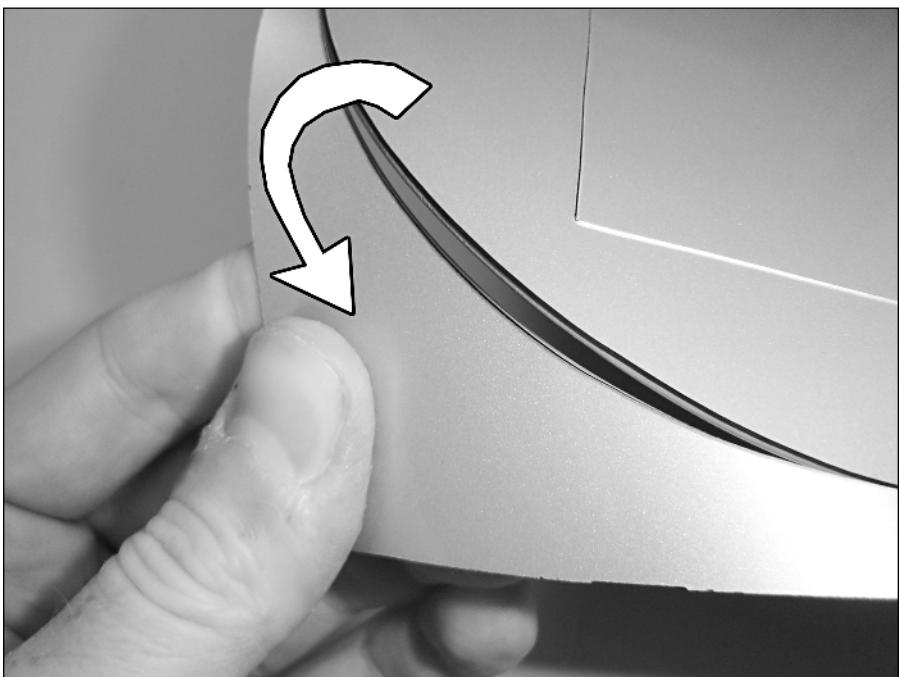

FIGURE 13-3: Bending the plastic around the edges of the front screen plate circle.
6. You can now bend the main circle shape free of the plastic. Bend the edges of the circles backward, away from the color side of the plastic as shown in Figure 13-3. Once you've bent a certain ways, the plastic should snap open on the groove you made. Do this all around the circle to remove it.